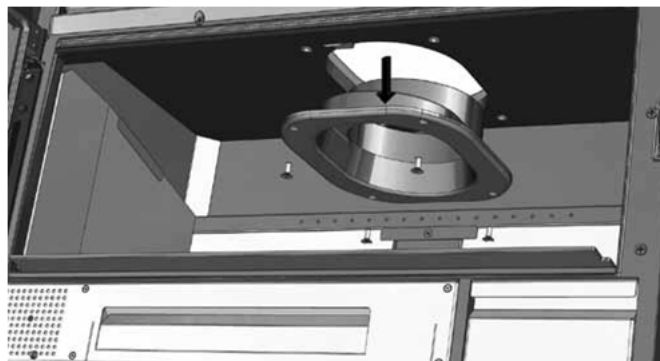

FIG. 12
**ATTENZIONE! SOSTENERE LA CANNA FUMARIA CON UNA MANO PRIMA DI ALLENTARE L'ULTIMA VITE, ALTRIMENTI LA CANNA FUMARIA POTREBBE CADERE (Fig. 12).**